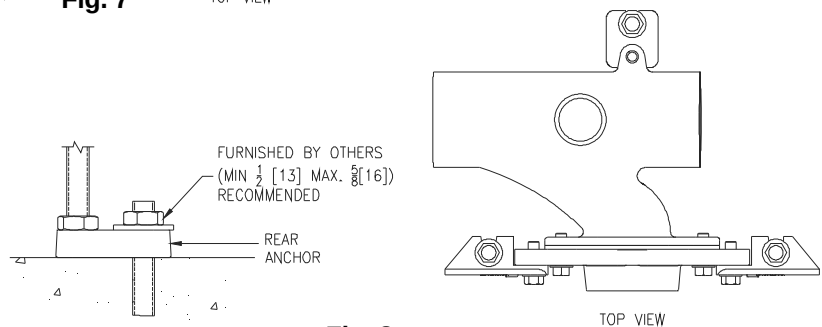

Fig. 8
8. Prep the floor for concrete anchors and place the carrier back into position. Lag down the feet using ½" anchors (supplied by others). See Fig. 8